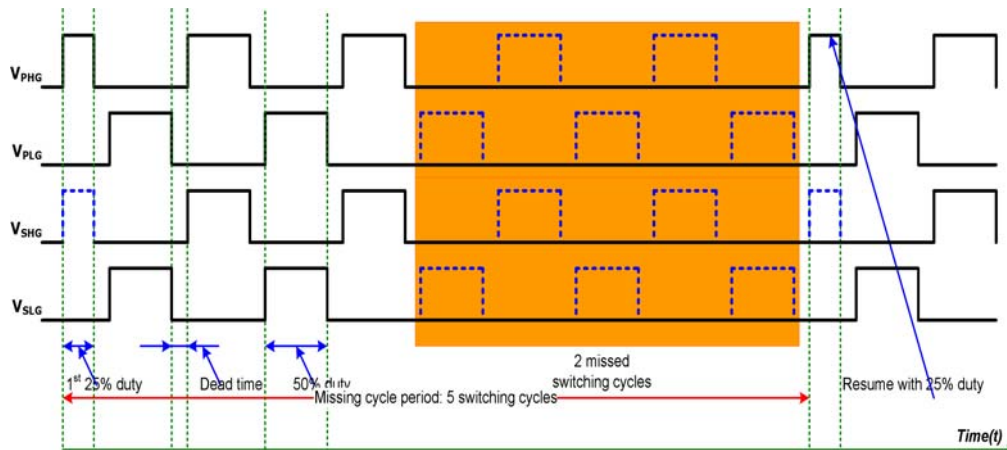

Figure 11 ICE2HS01G gate outputs during Missing Cycle
If the current sense voltage is lower than the preset reference level on Vmc pin for 20ms, IC enters into a Missing Cycle (MC) mode, where every two out of five switches are removed to reduce the average switching frequency. Vref pin is the output of internal reference voltage, which is an accurate 5V voltage source, with up to 2 mA. A typical output gate drive waveforms in MC mode is shown in Figure 11.